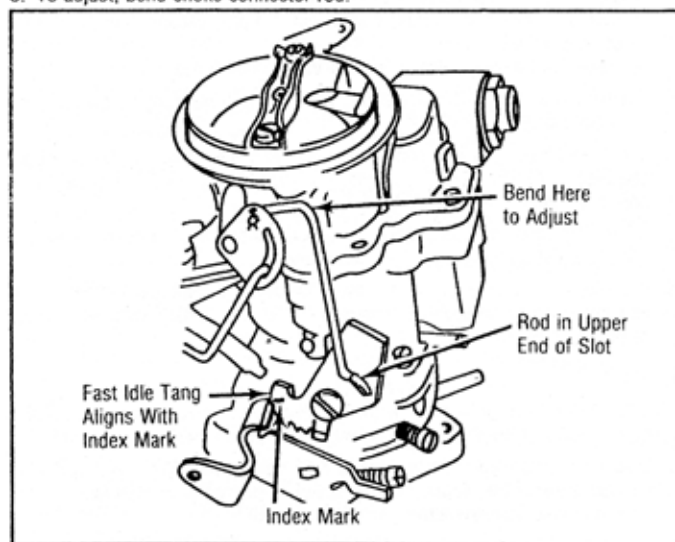

Fig. 9 Fast Idle Linkage Adjustment (Type C - If Equipped)
1. Close choke valve completely. Position connector rod in upper end of slot in fast idle cam. See Fig. 9.